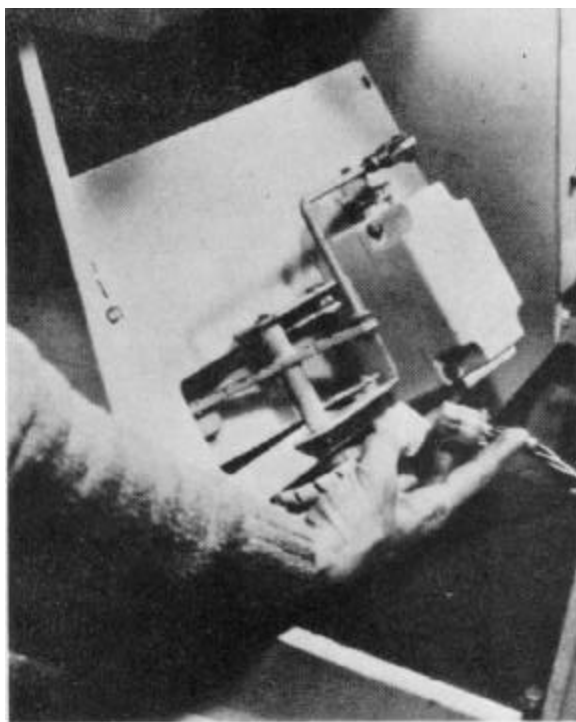

Figure 5-176
3. Remove the wire harness connector, P5A from the electrical system connector, J5A (Fig. 5-176),